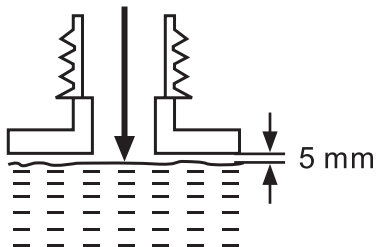

Fig.5c
- > Fill correctly mixed fuel/oil into the tank using a fuel funnel fitted with a filter to avoid debris entering the tank. Do not overfill and leave approximately 5 mm of space between the top of the fuel and the inside edge of the tank to allow for expansion (Fig. 5c).